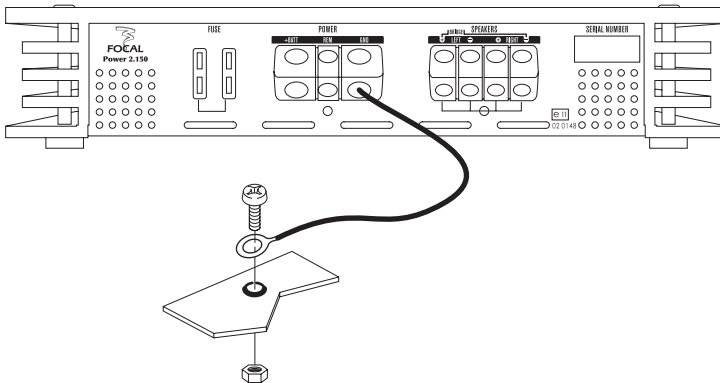

fig. 4
- 10 - Prepare the chassis ground by scraping any trace of paint on the metal surface in order to ensure correct grounding. The grounding connections should also be as short as possible and ALWAYS connected to the metal welded to the body or the chassis of the vehicle. (fig. 4).
3.4 - Get hold of the negative power cable. This cable should be as short as possible and ideally should not be any longer than 1 metre, to ensure effective coupling between the amplifier and the car's chassis. The cable and its wire gauge should comply with the table on page 7. Find a suitable ground point (see fig. 4), then sand it to remove any traces of paint or other covering and in so doing optimise the contact point. Pierce the metal that you have previously sanded, making a hole the same size as the screw you are using, making sure that there are no tank cables or any other sensitive vehicle devices nearby. Remove the plastic around 1 cm of cable and then crimp or weld it onto the terminal lug provided. Insert the terminal lug in the screw, and then put the screw and nut in place and screw-drive the screw in firmly.